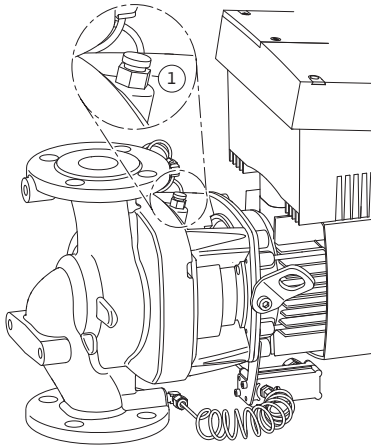

Fig. 45: Bleed valve
6. Depressurize the pump by opening the bleed valve (Fig. 45 Item 1).